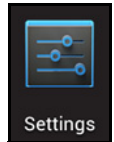

Figure 3
1. Find and tap the Settings icon on the Android Device (Figure 3).